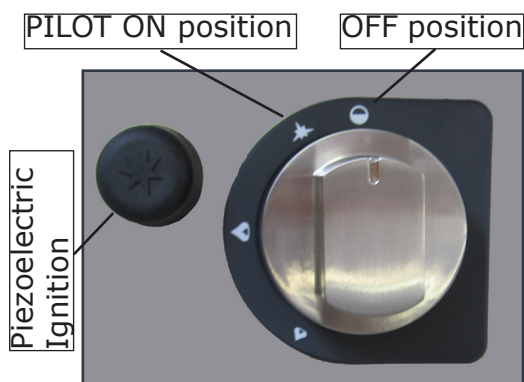

Fig.12
- turn the knob and hold it pressed in the pilot burner ignition position★ (Fig.12). At the same time, repeatedly press the piezoelectric ignition